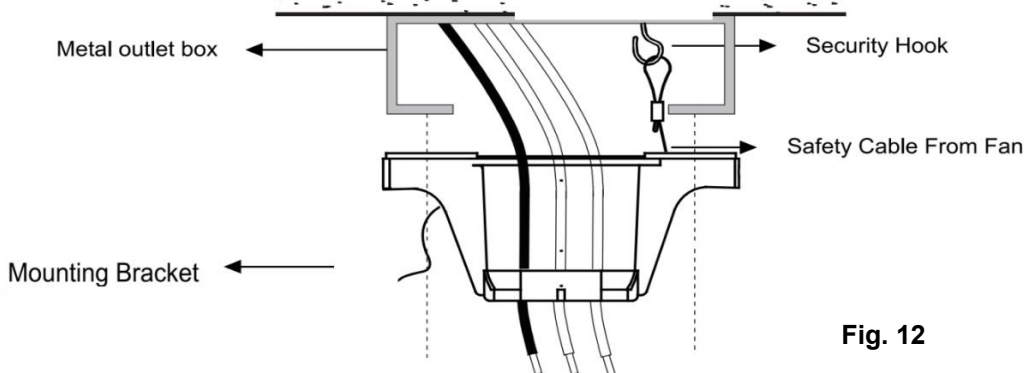

Fig. 12
9. Pull the metal safety cable on the security hook, tight the safety cable. (Fig. 12)